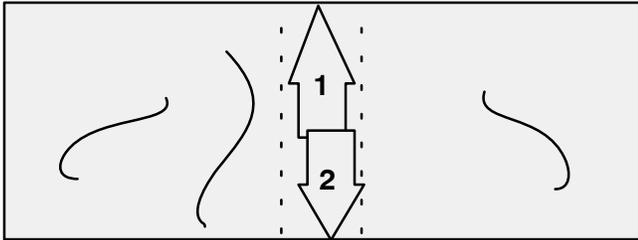

Figure 4. Squeegeeing the Center of a Large Graphic
- a. Use a large window squeegee and very light pressure to smooth out the entire graphic, starting at the center and working toward the edge, in the order shown in Figure 4. When you finish this step, the film should be flat on the substrate and most of the water pushed out.